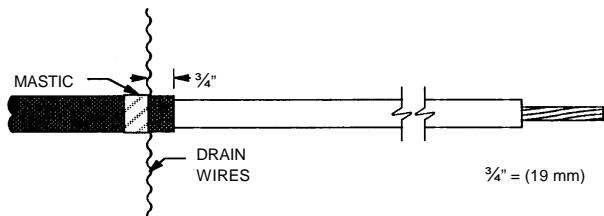

Figure 2
7. Bend drain wires away from cable (**Figure 2**).
the base of the drain wires, ¾" (19 mm) from the jacket cut-off. Stretch the mastic slightly when applying. Cut off excess (**Figure 2**).